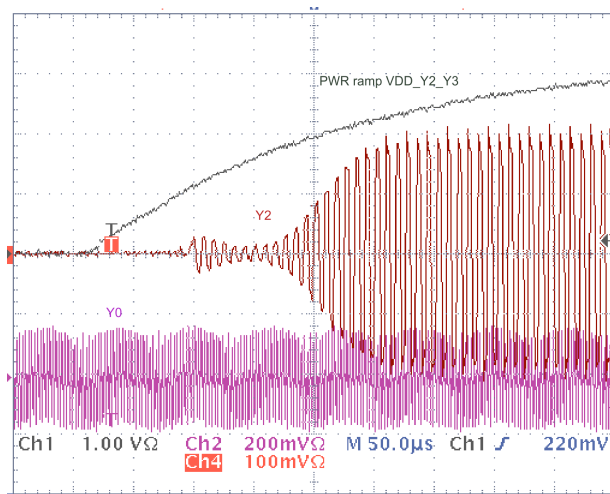

Figure 58. Sequencing the Output Turnon Through Sequencing the Output Supplies
2. **Output Power supply domain control:** An even easier scheme might be to connect the clock output power supply VDD\_Yx to the corresponding DSP input clock supply domain. In this case, the CDCM6208 output will remain disabled until the DSP rails ramps up as well. Figure 58 shows the turnon behavior.